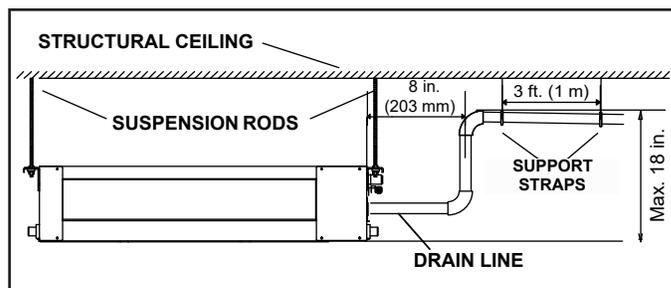

Figure 11. Condensate Drain with Lift Pump Single Unit
5. See Figure 11 for applications including a single unit using the factory-mounted lift pump.